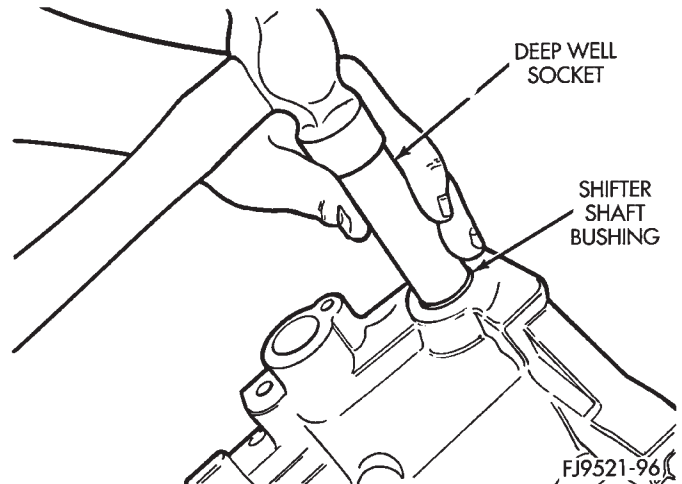

Fig. 145 Selector Shaft Bushing Installation
- (1) Position replacement bushing over selector shaft bore.
- (2) Using an appropriate size deep-well socket, install bushing in selector shaft bore (Fig. 145).